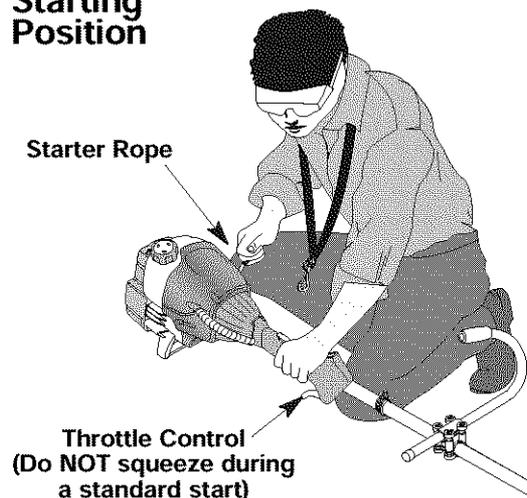

Fig. 18
**WARNING:** Avoid accidental starting. Make sure you are in the starting position when pulling the starter rope (Fig. 18). To avoid serious injury, the operator and unit must be in a stable position while starting.
4. Crouch in the starting position and **do not squeeze the throttle control** (Fig. 18). Pull the starter rope up to 10 times briskly, (making sure the EZ-Start™ lever is pushed to the left).